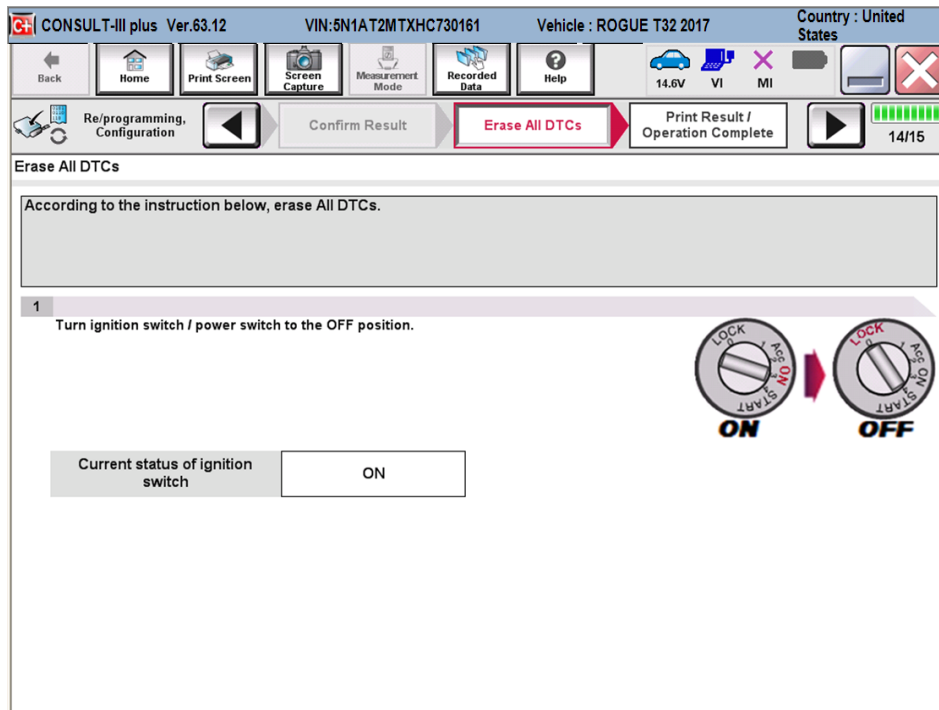

Figure 23
36. Wait for System call to complete. Once completed, the screen in Figure 23 will be displayed.